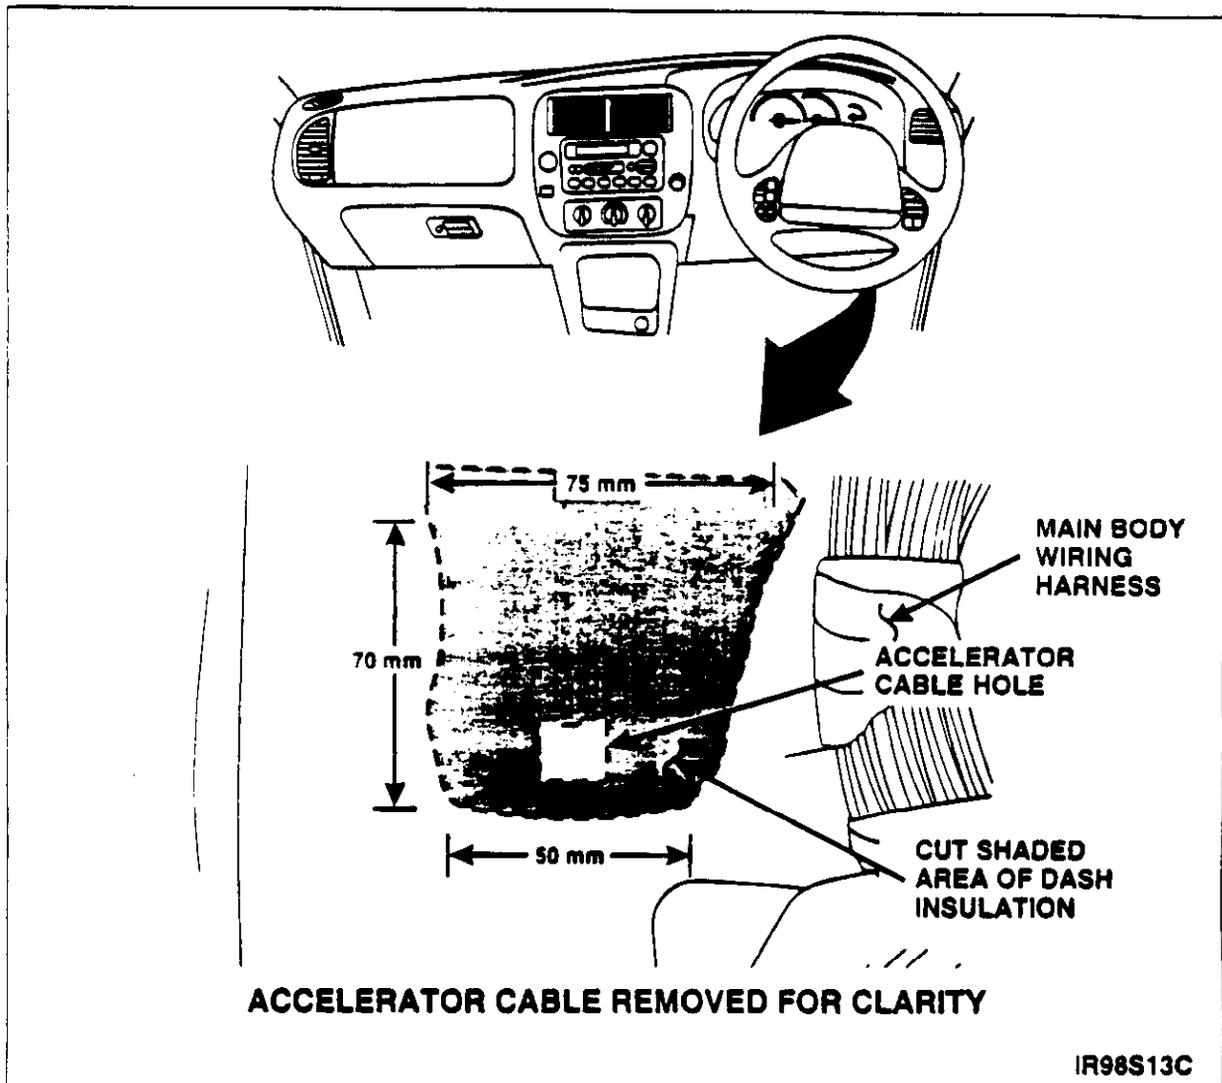

FIGURE 2
10. From passenger compartment, cut dash panel insulation around accelerator cable hole to dimensions shown in shaded area of Figure 2. There is also a horizontal portion of insulation that needs to be trimmed above the accelerator cutout illustration. This insulation must be cut to 75 mm deep by 75 mm wide to prevent it from dropping down and causing interference with accelerator pedal and cable.